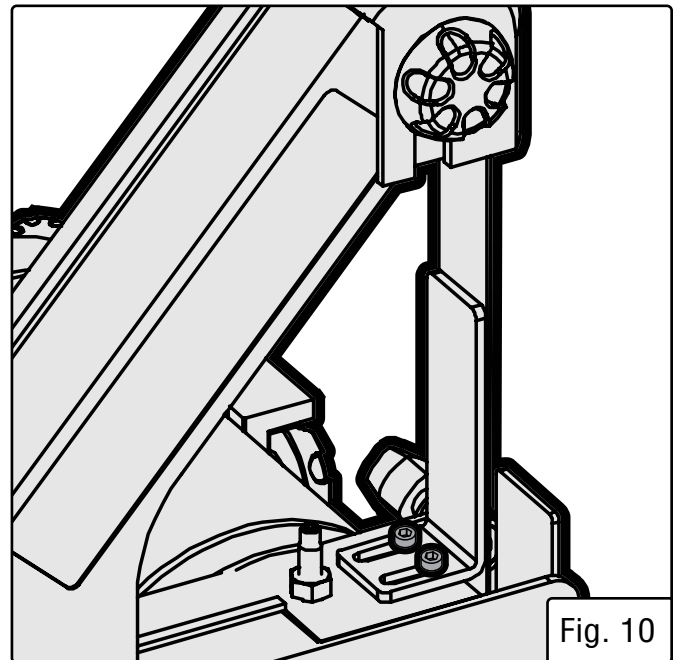

Fig. 10
3. Loosen the two hex screws (Fig. 10) that secure the platen to the sander's frame. Adjust the platen so that it is almost touching the back of the belt. Re-tighten both hex screws.